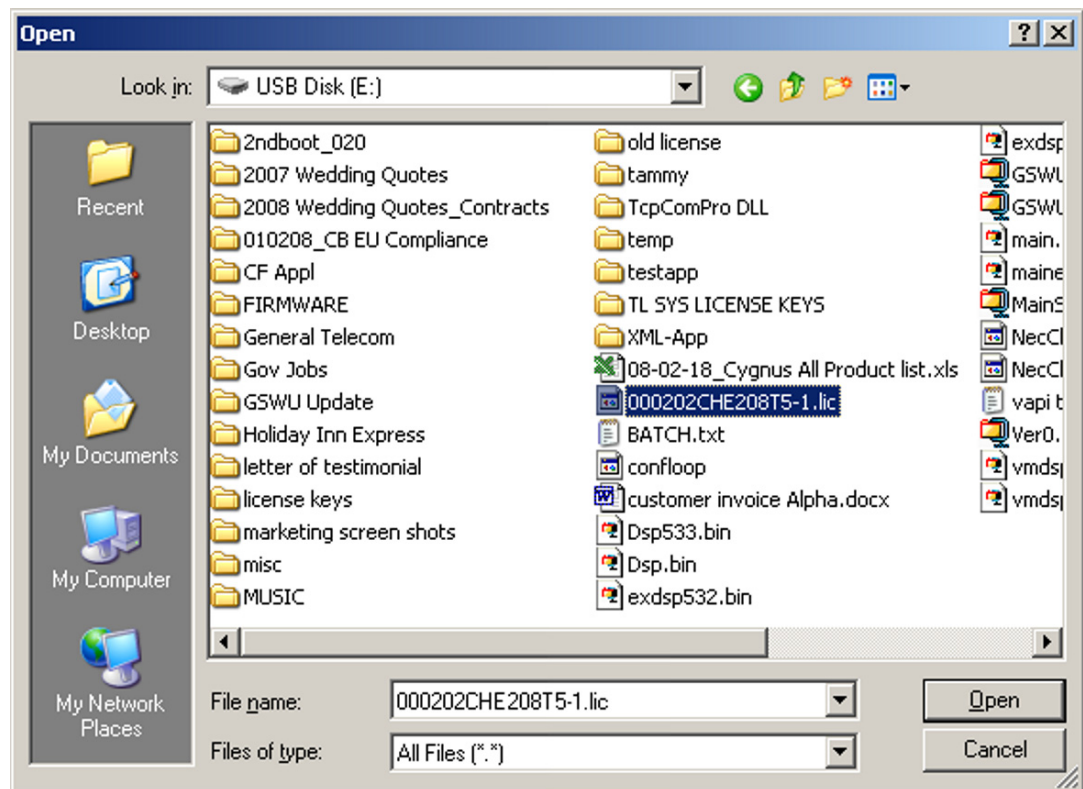

Figure G-3 Feature Activation Open File Dialog
3. Click **Load File** (refer to Figure G-3 Feature Activation Open File Dialog on page G-4).